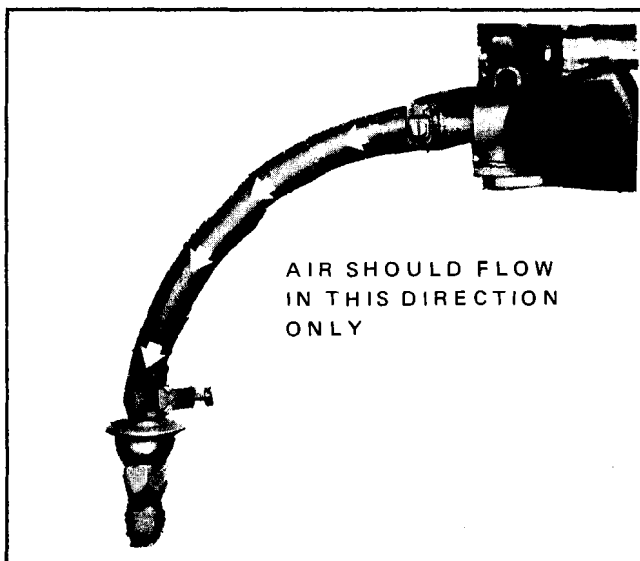

Fig. 6D-29 Air Flow Through Check Valve
6. With the pump running, bubbles will form if a leak exists (Fig. 6D-28).